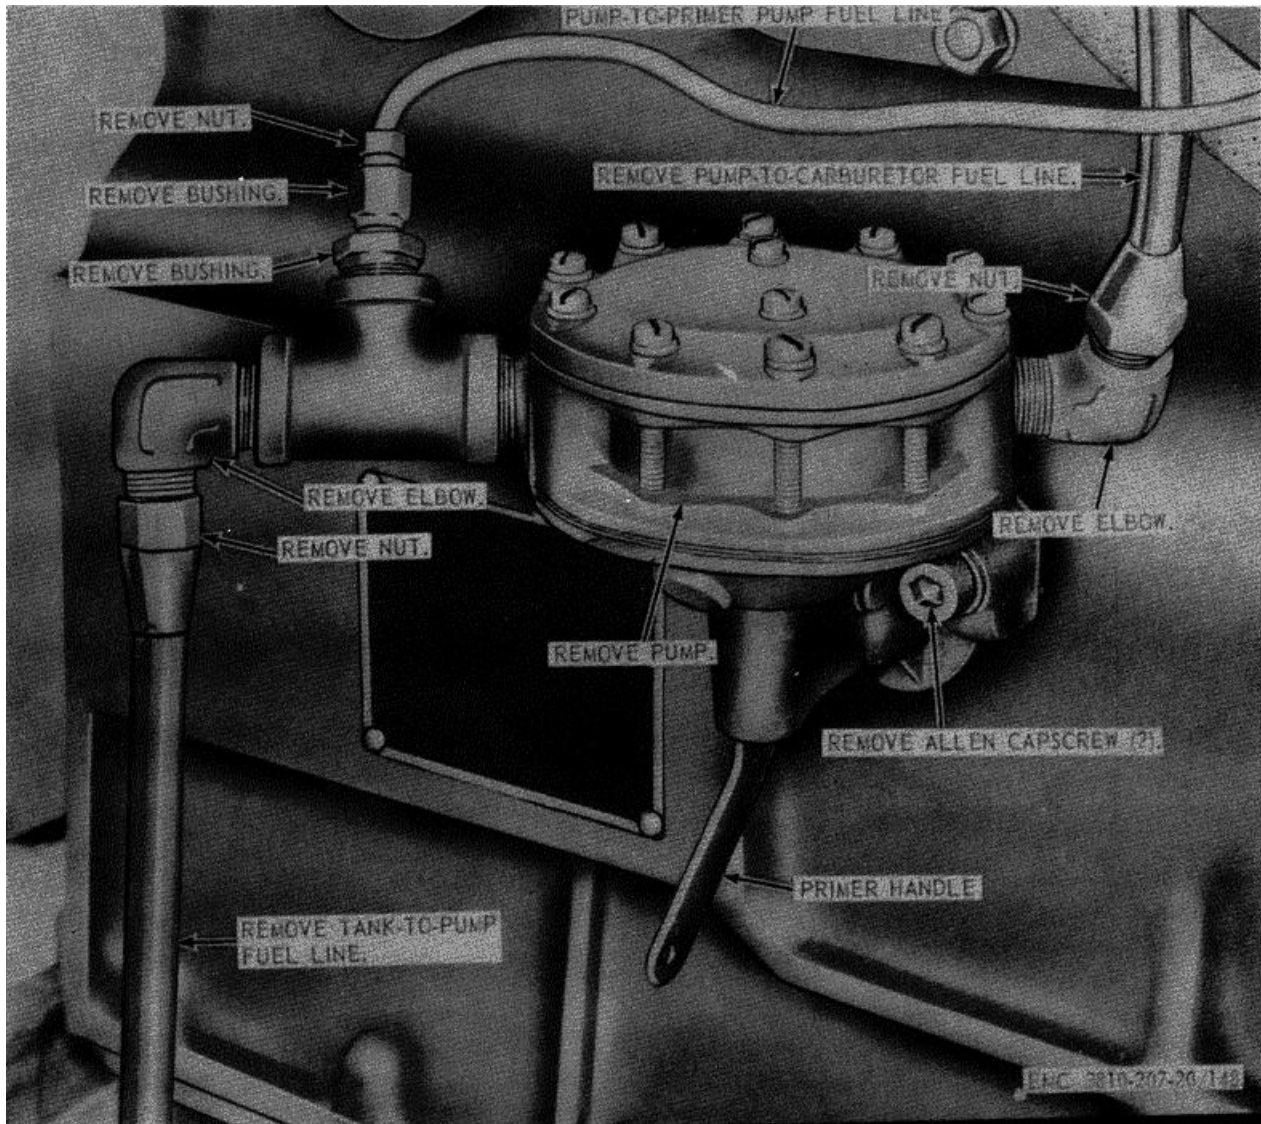

Figure 148. Carrier engine fuel pump, removal and installation.
a. Removal. Remove the carrier engine fuel pump as instructed on figure 148.
- (1) Clean all parts with an approved cleaning solvent.
- (2) Inspect all parts for defective condition.
- (3) Repair or replace damaged parts as necessary.
c. *Installation.* Install the Her engine fuel pump as illustrated on figure 148.